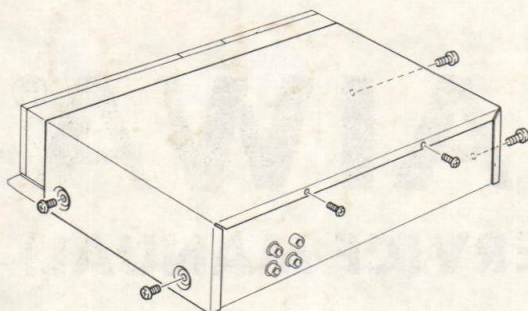

Fig. 1
- 1) Remove 6 screws. (See figure 1)